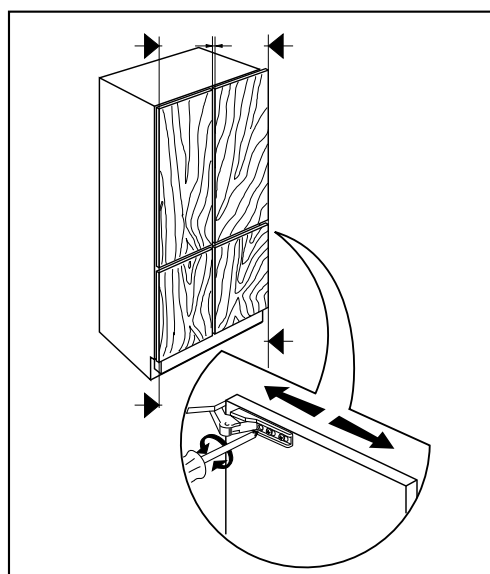

Fig. 12
- Check the vertical alignment of the doors and correct their position if necessary (Fig. 12).